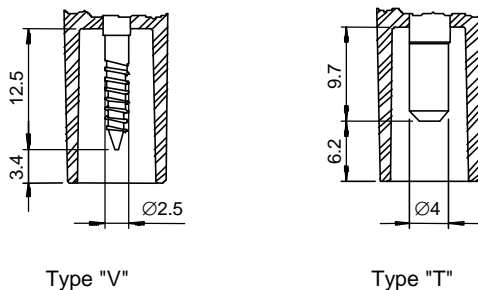

Fig. 4
- V: screw fixing system (Fig. 4);
T: fixing system with terminal $\varnothing 4$ (Fig. 4);
The connection of high voltage cables can be of two types, according to the terminals used inside the isolators: connections can be executed by means of a screw or of a cylindrical terminal with 4 mm diameter, as shown in Fig. 4. Cables with different lengths and terminations can be supplied upon request.